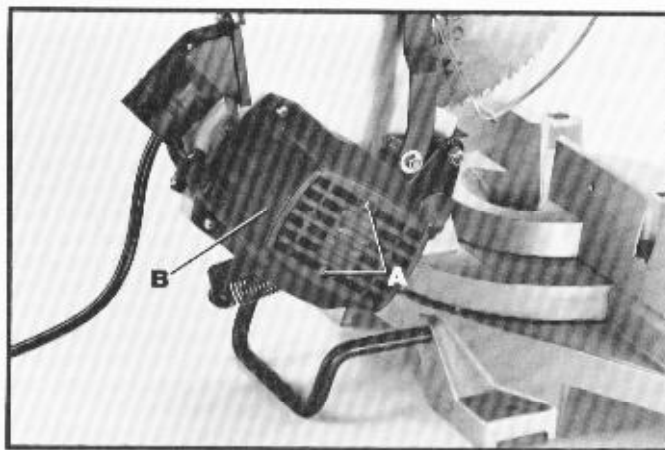

Fig. 64
1. Remove two screws (A) Fig. 64, and remove motor cover (B).